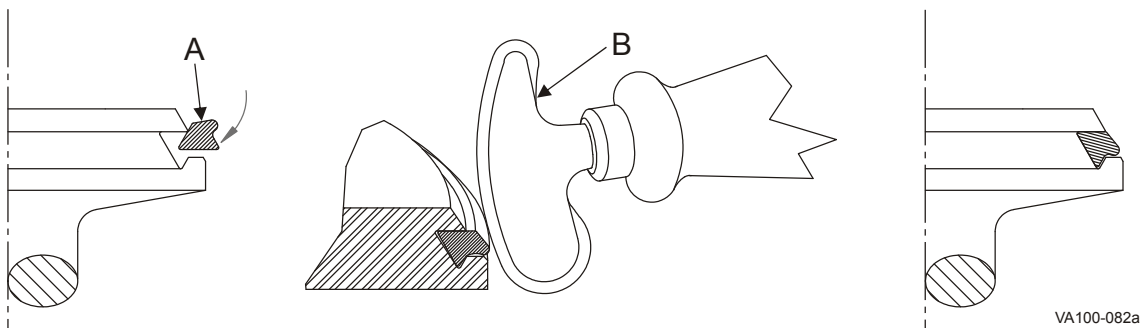
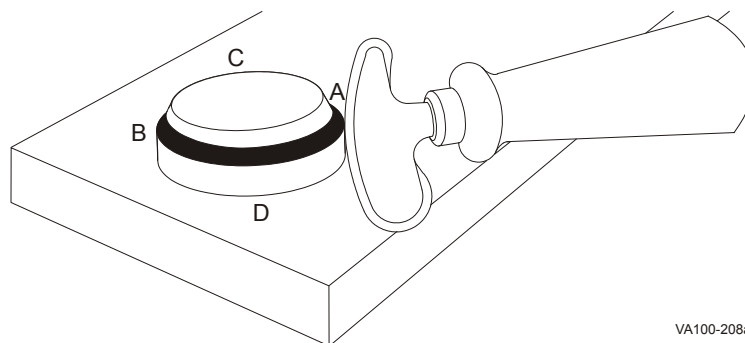

Figure 19 - Installing New Tri Ring Seat
Figure 20 - Pressing Tri Ring Into Plug
3. Lubricate the new Tri Ring (Figure 19, item A) with acceptable cleansing solution or lubricant.
5. Start the Tri Ring as shown in Figure 19.
6. Using the installation tool, part number 102797 (Figure 19, item B), press the Tri Ring into the plug at locations A, B, C, and D (Figure 20). If the tool is not used, DO NOT use a knife or any other sharp item that will tear or cut the Tri Ring.
8. When properly installed, the Tri Ring seat lip will protrude slightly from the seat edge as shown in Figure 19.